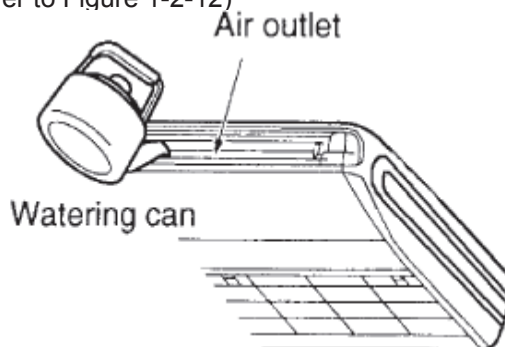

Figure 1-2-12
- Confirm that smooth drainage is achieved after the piping work. Pour 600 cc of water into the drain pan from the air outlet for confirming drainage. (Refer to Figure 1-2-12)